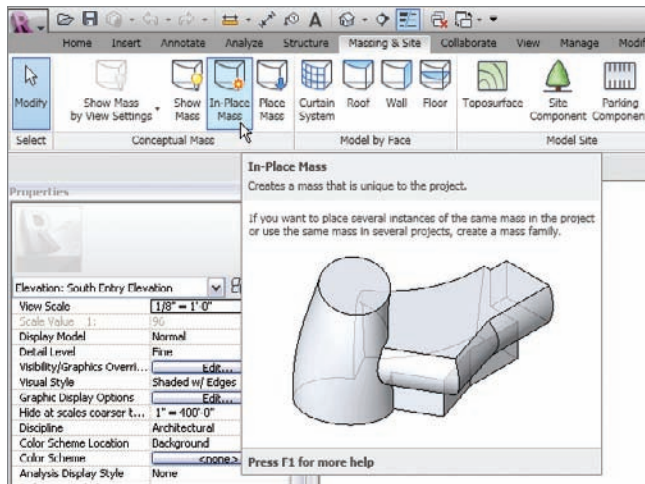

FIGURE 16.41 Click the In-Place Mass button.
1. On the Massing & Site tab, click the In-Place Mass button, as shown in Figure 16.41.